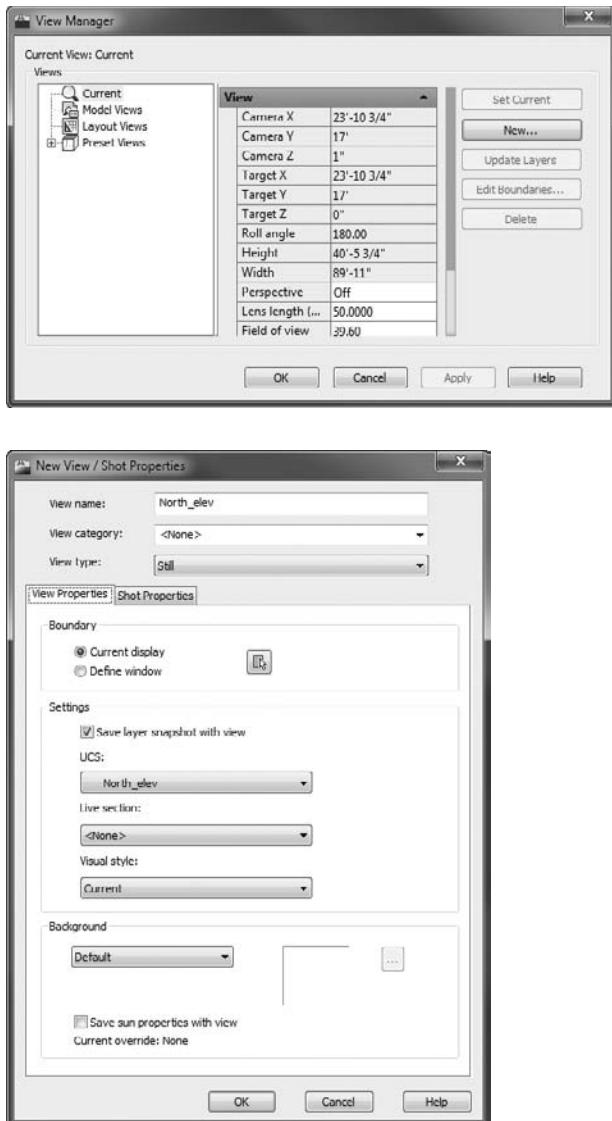

FIGURE 10.43 Saving a view in (top) the View Manager and (bottom) the New View/Shot Properties dialog boxes
10. You can also save the view to be able to recall it quickly. Click the Named Views button in the View tab > Views panel (Figure 10.43 left). You can also start the VIEW command by entering V*J*.
12. In the View name text box, enter North_elev (Figure 10.43 right). Click the Current display radio button and click OK.